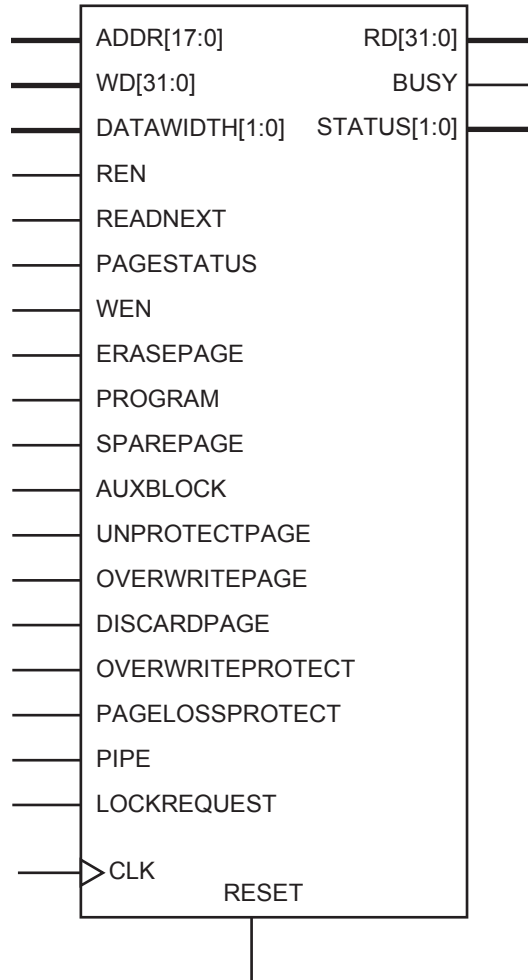

Figure 2-32 • Flash Memory Block
Fusion is the first FPGA that offers a flash memory block (FB). Each FB block stores 2 Mbits of data. The flash memory block macro is illustrated in Figure 2-32. The port pin name and descriptions are detailed on Table 2-19 on page 2-40. All flash memory block signals are active high, except for CLK and active low RESET. All flash memory operations are synchronous to the rising edge of CLK.